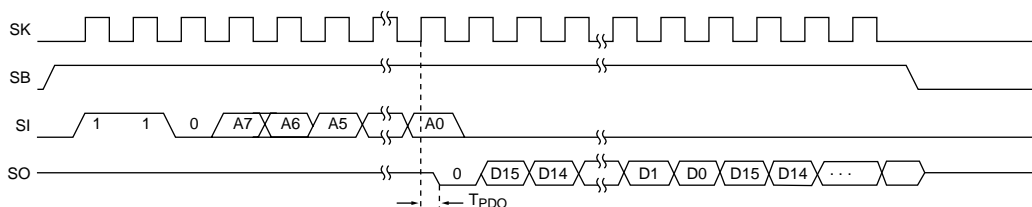

FIGURE 2. Sequential Read Instruction Sequence
Up until this point, the data out (DO) will remain in TRI-STATE®, but beginning with the same rising edge of the clock (SK) that clocks in address bit A0, the data out will drive a low level. This first bit is always a zero. Starting with the next clock, valid data will appear on the data out pin. The leading zero in the data field will only appear in the first word read in a sequential read sequence, all subsequent data words will be clocked out on the data out pin in an uninterrupted stream. Refer to Figure 2 for the timing sequence.